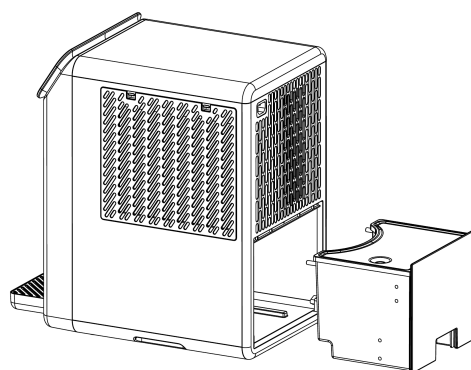

Figure 8 · The tank removed
2. Set the tank down (Figure 8).